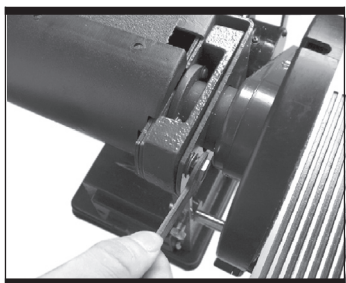

Fig 10-1
8. Mounting the worktable for use with the belt sander (See Fig 10-1 - 11-3)